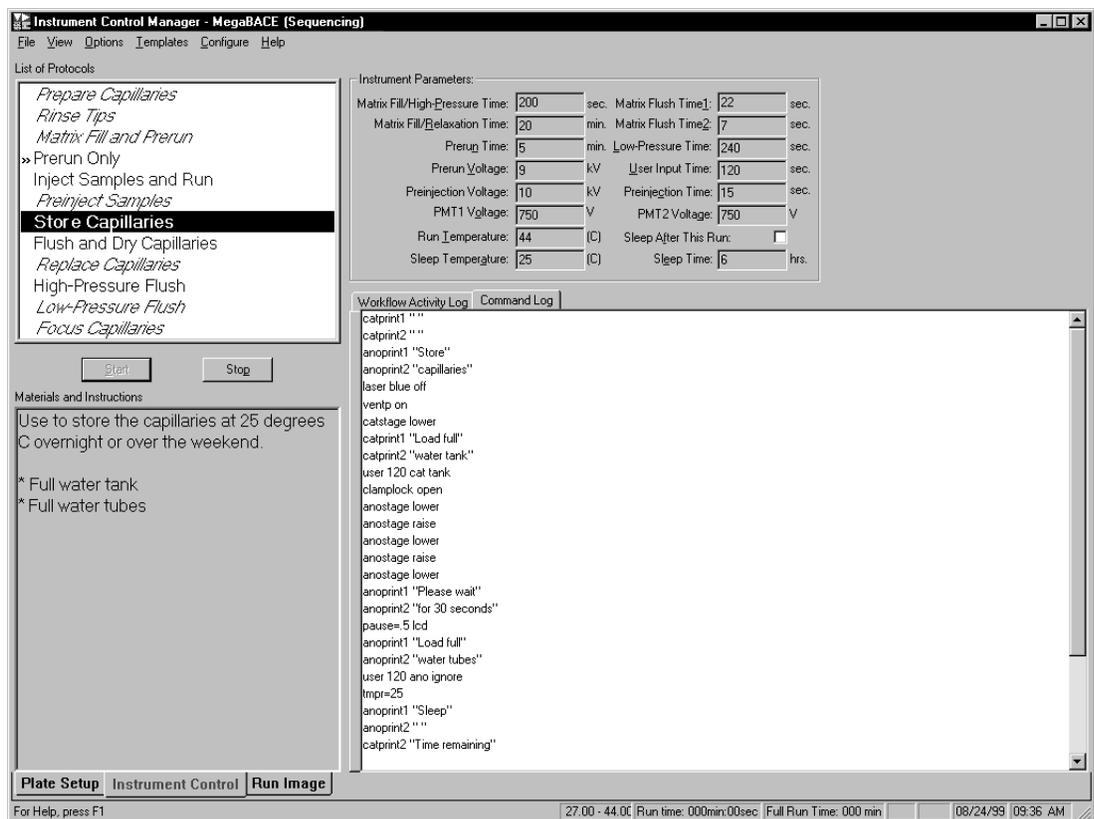

Figure 6-22. The Instrument Control Window.
1. Click the **Instrument Control** tab (figure 6-22) to display the Instrument Control window.